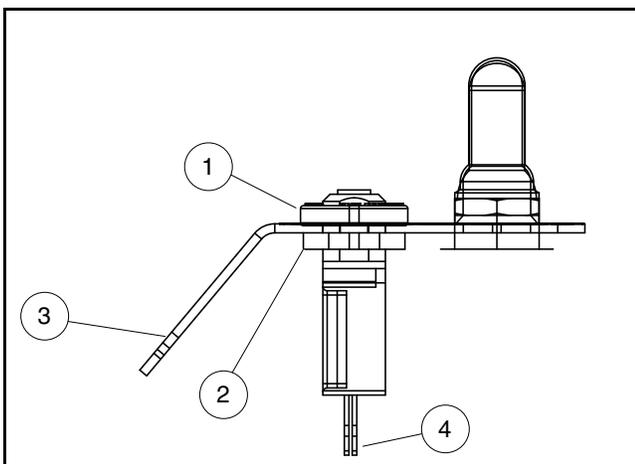

Figure 24-4 Circuit Breaker
2. Remove the plastic nut (1) from the circuit breaker (**Figure 24-4, Page 24-5**).
3. Remove circuit breaker and metal nut (2) from bracket (3).
4. Disconnect tan and green wires from the spade connectors (4) on the back of the circuit breaker.